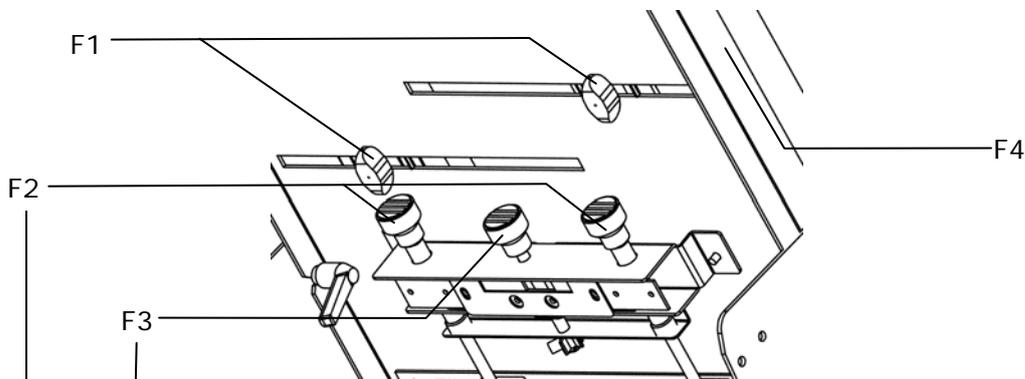

Figure 9: Separator system
- Loosen the wing grips (F1) of the paper side guides and push these all the way outwards (see Figure 9).